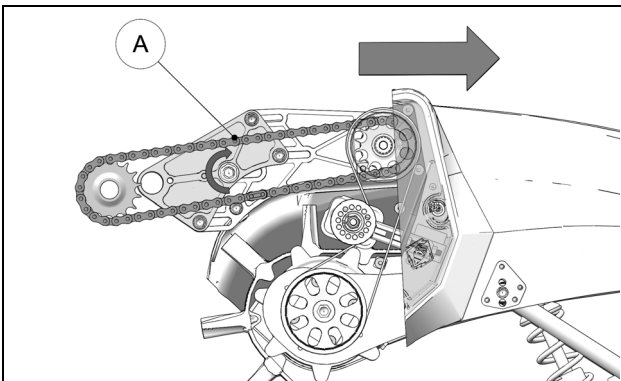

Figure 48
If the chain is adjusted to the highest tension setting (A) and the required 3 - 6 mm amount of play (1/8-1/4 in.) cannot be obtained at mid-point (B) between the sprockets, the chain should be replaced. See Figure 48.